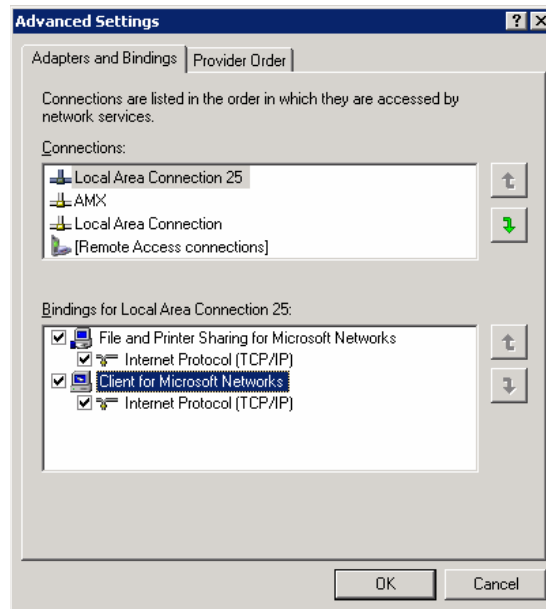
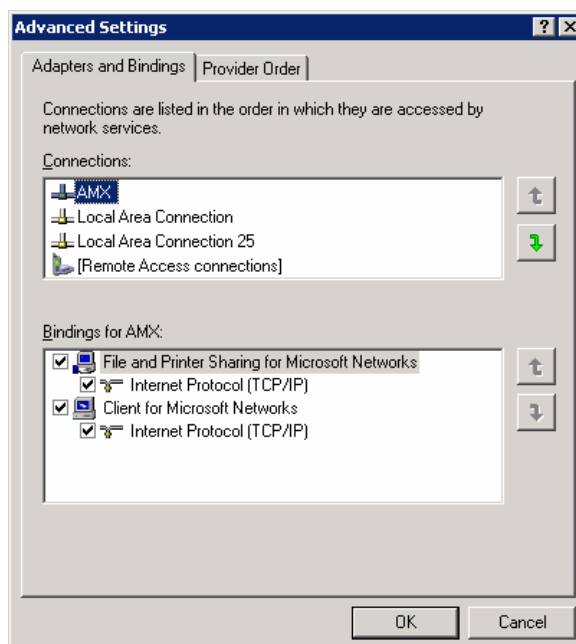

FIG. 75 Advanced Settings window
FIG. 76 Moving the Local Area Connection
- From the *Advanced* menu, select *Advanced Settings...* to open the *Advanced Settings* window (FIG. 75).
- Under the *Adapters And Bindings* tab, the user needs to make sure the *Local Area Connection* is not at the top of the *Connections* list. If it is at the top of the list (FIG. 75), select it and use the *down* arrow to the right of the list to move it to the bottom of the list (FIG. 76).